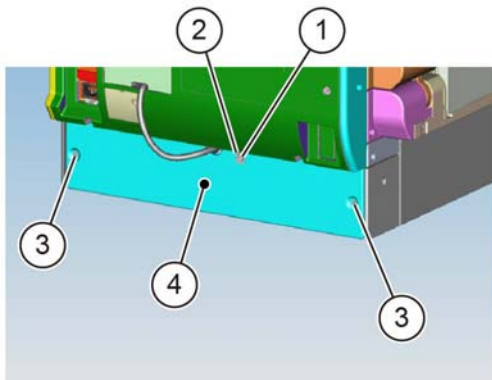

Figure 2 Rear cover removal
2. Remove the rear cover, Figure 2:
- a. Remove the docking screw (1).
- b. Remove the docking bracket (2).
- c. Remove two screws (3).
- d. Remove the rear cover (4).